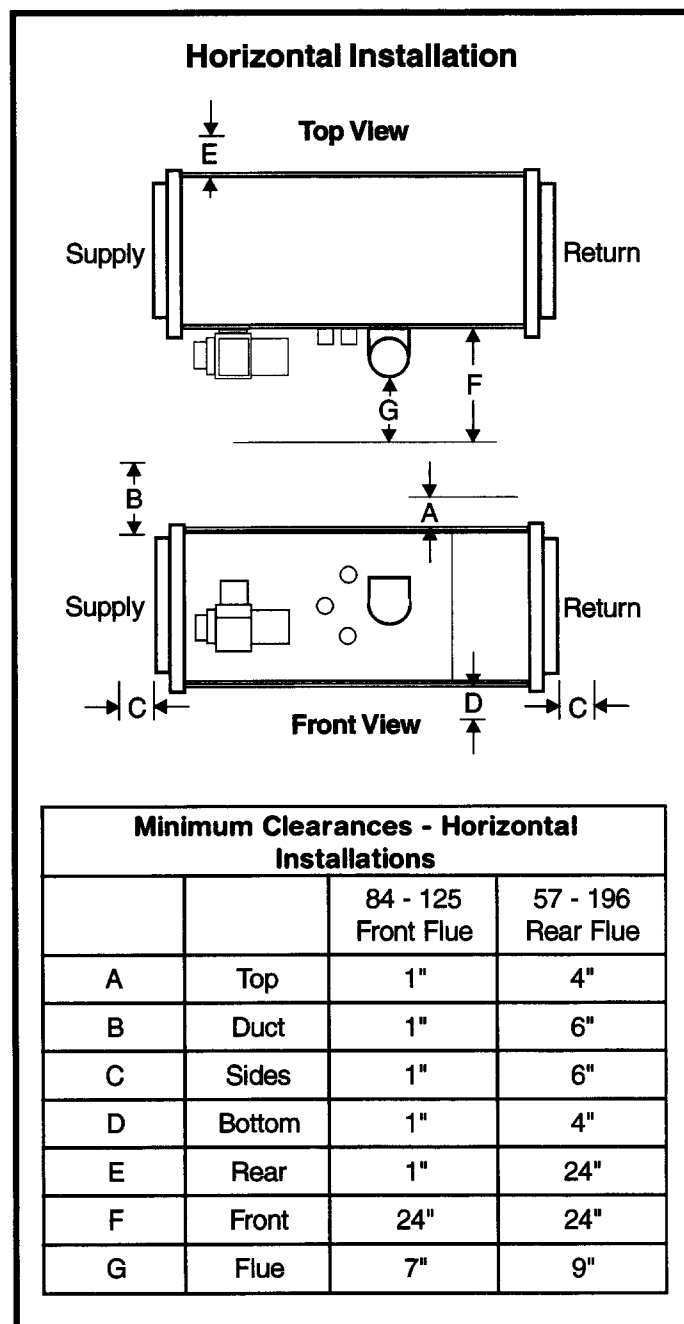
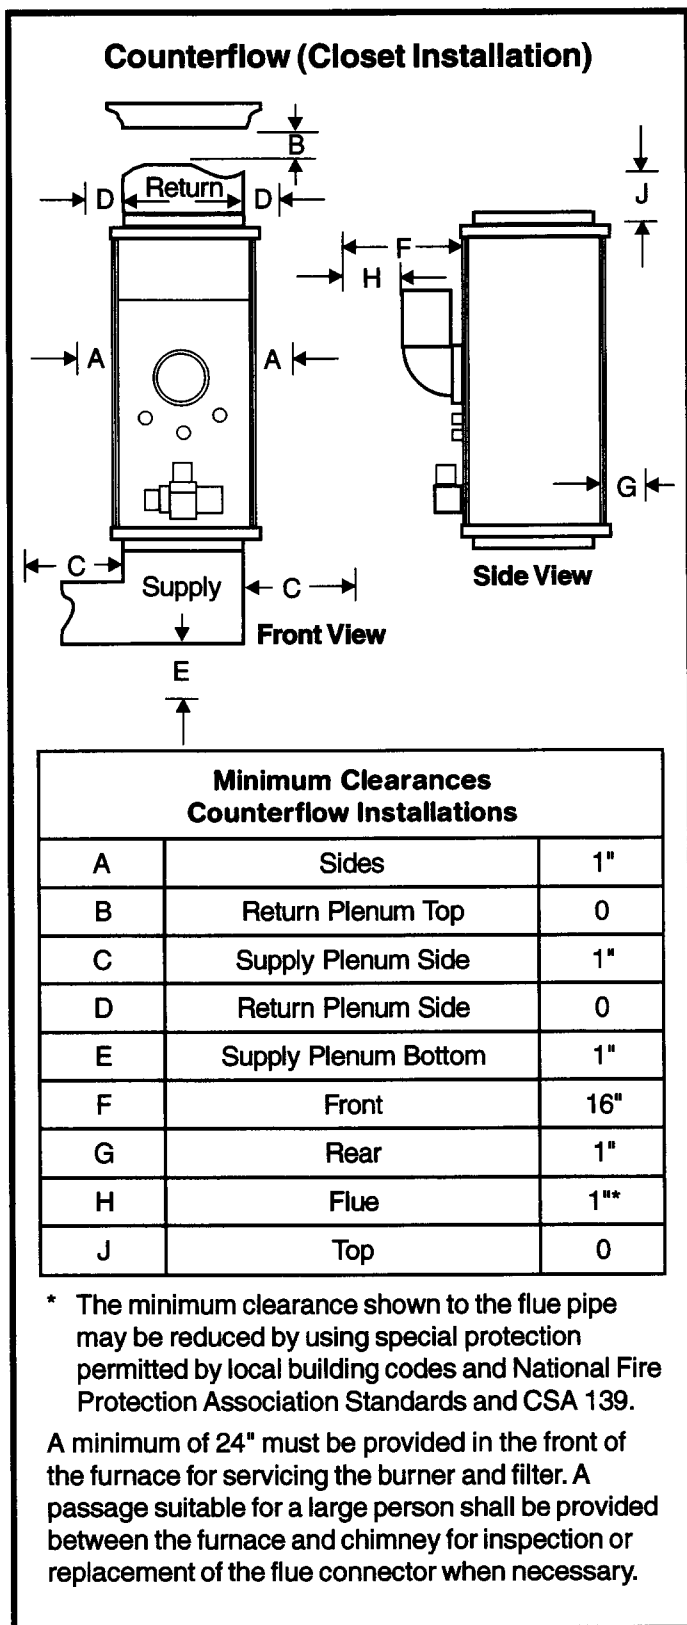

Figure 2
Figure 3
See Table 1 for a complete listing of the minimum clearances required for basement type and upflow installations. See Figure 2 on page 4 for the minimum clearances required for horizontal installations and Figure 3 on page 5 for the minimum clearances required for counterflow installations. **When accessibility clearances are greater**
3. Refer to Figure 3 for minimum clearances required.